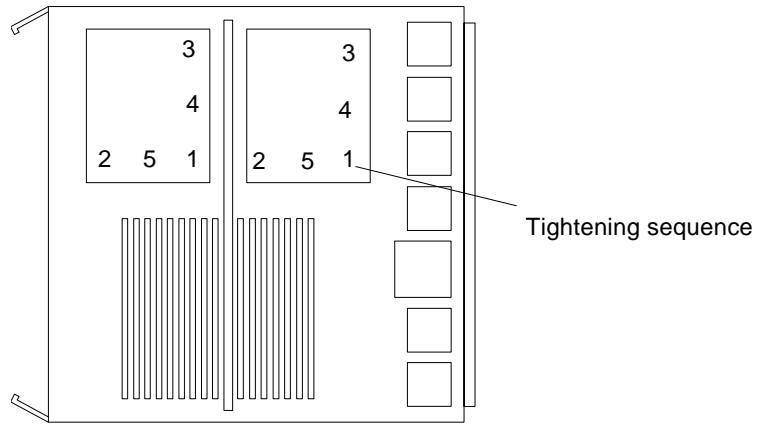

FIGURE 3-11 CPU Module Torque Tightening Sequence
- a. **Tighten each screw in the sequence shown in figure 3-11 until it reaches the metal plate.**